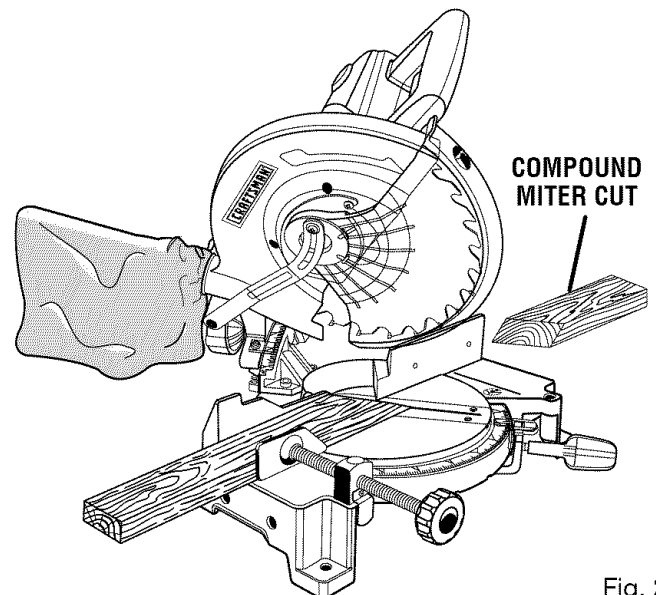

Fig. 29
- Grasp the stock firmly with one hand and secure it against the fence or use the optional work clamp or a C-clamp to secure the workpiece when possible. See Figure 29.
- Slowly lower the blade into and through the workpiece. See Figure 29.